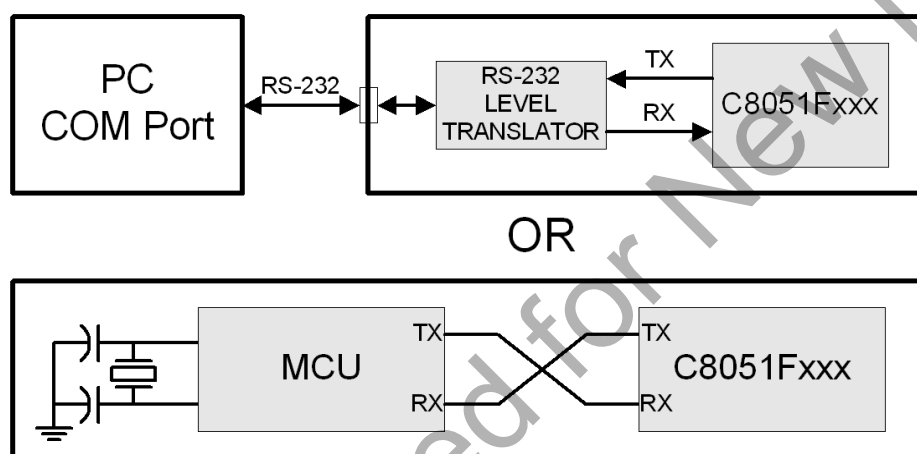

Figure 26.5. Typical UART Interconnect Diagram
In typical UART communications, The transmit (TX) output of one device is connected to the receive (RX) input of the other device, as shown in Figure 26.5.